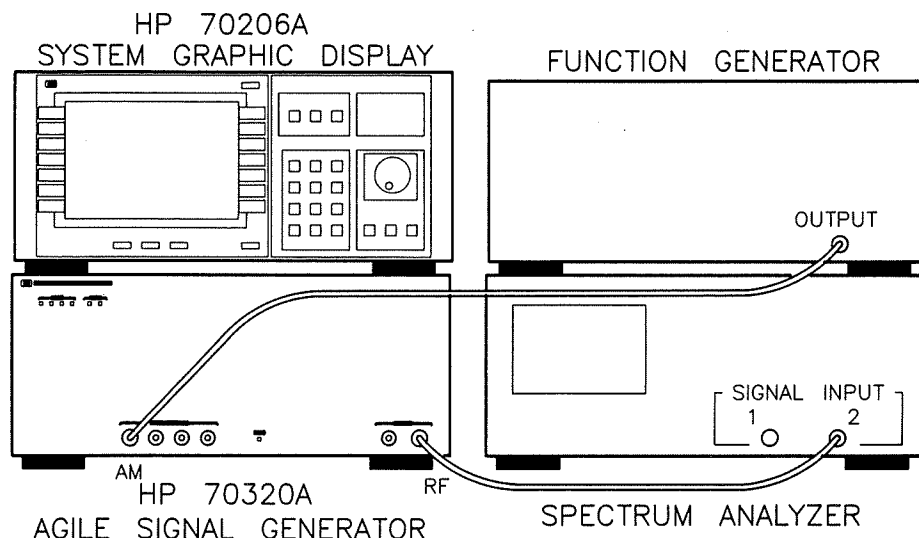

Figure 2-8. Equipment Setup for Simultaneous FM and AM Procedure.
1. **Connect the HP 70320A to the Spectrum Analyzer and Function Generator as shown in figure 2-8.** Turn on the equipment and make the following adjustments: